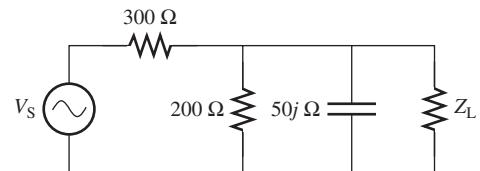

FIGURE P6.48 Circuit for Problem 6.48.
- 6.48** (A) Sketch the Thévenin and Norton equivalent circuit for the circuit shown in Figure P6.48, where $V_S = 20\angle 30^\circ$.